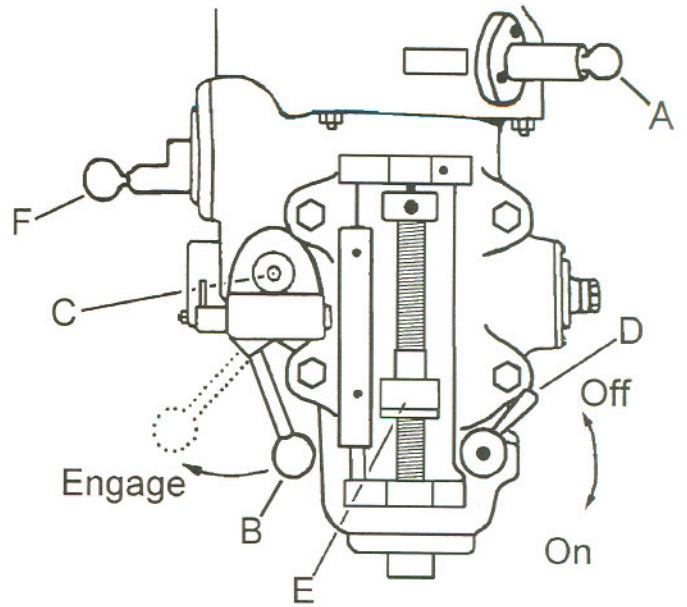

Fig. 8
6. Engage feed trip lever (B, Fig. 8) by pulling away from head assembly.